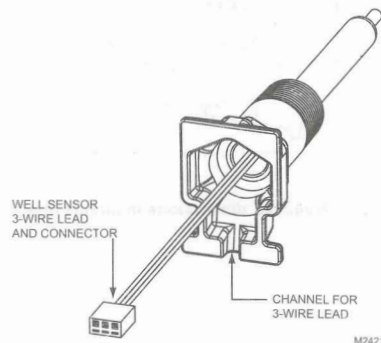
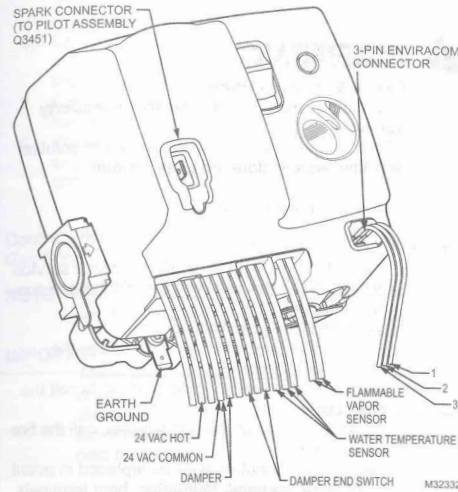

Fig. 4. Well Sensor showing 3-wire lead and channel (M21213).
Fig. 8. Wiring connections.
2. Ensure that the 3-wire lead from the well assembly is bent down into its channel (as indicated in Fig. 4), and then insert the 3-pin wire lead from the well assembly onto the connector of the Control and snap in place as indicated in Fig. 8.
NOTE: Use Fig. 8 as a reference for the following connections.